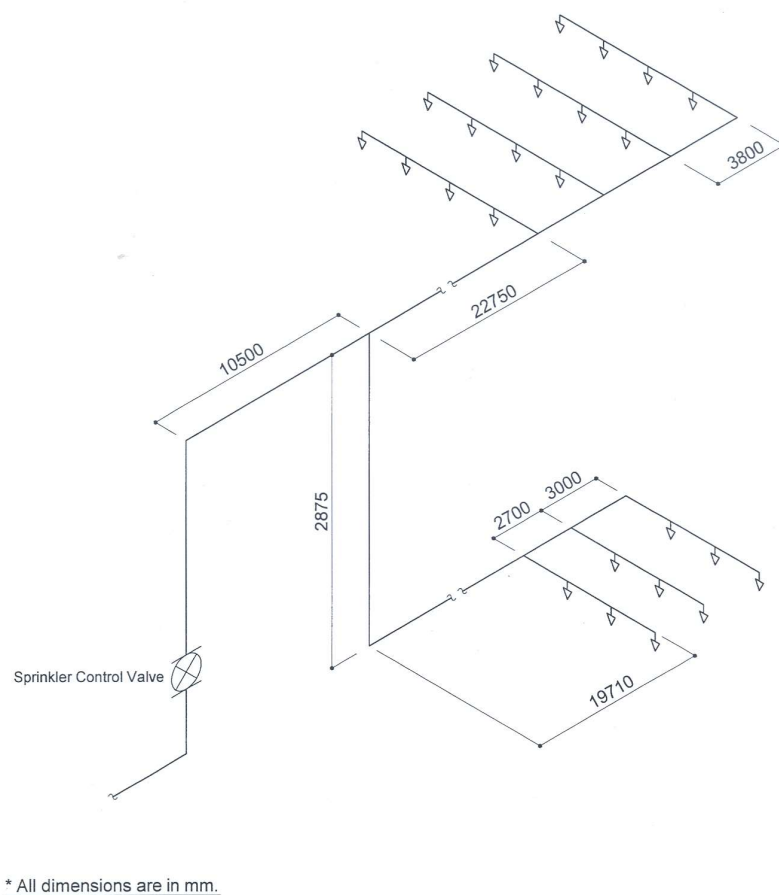

Figure 3. Isometric design of an Ordinary Hazard Group II sprinkler system
Use the isometric design of an Ordinary Hazard Group II sprinkler system as shown in Figure 3, to design according to the pre-calculated method.
- (a) Determine the water supply requirements and show them on Figure 3.